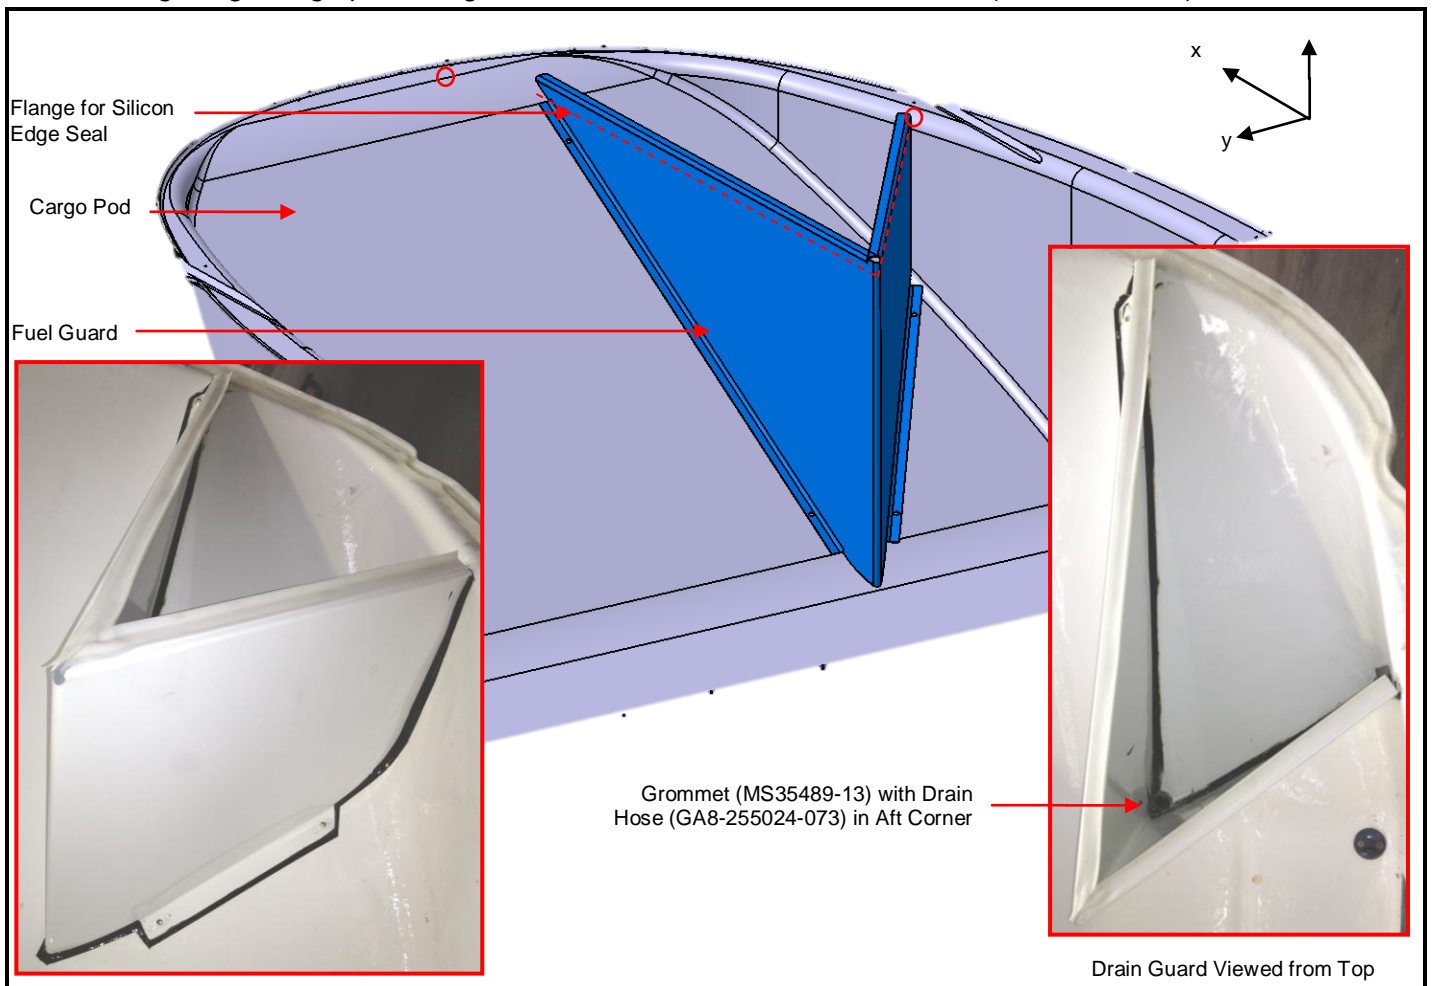

Figure 12: Cargo Pod Fuel Guard Installation
4. Figure 12 illustration improved. Part 2 instruction 24 (m) adhesive type added. Weight and Balance implication included.
cargo pod guard. Trim cargo pod guard to suit internal geometry of cargo pod (only if required). See Figure 12.
- k. Drill Ø0.750" hole for drainage in cargo pod at aft corner of fuel drain compartment, deburr the hole ensuring no sharp edges remain, Figure 12.
- l. Line the hole using the grommet (MS35489-13), Figure 12.